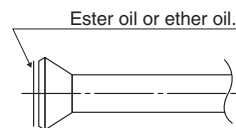

Fig. 14
- When connecting the flare nut, coat the flare section with ester oil or ether oil, rotate three or four times first, then screw in. (Refer to Fig. 14)